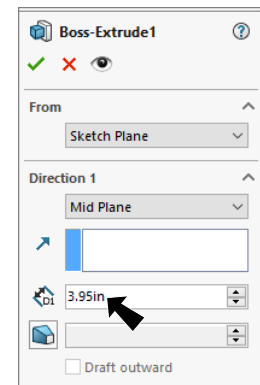

Fig. 15
Step 2. In the Boss-Extrude Property Manager set: under Direction 1, **Fig. 15**